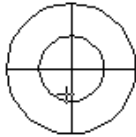

Figure 22-23: The pick point for Step 4
4. Type **vpoint** ↵. Press Enter again. Pick the point shown in Figure 22-23. Do a hide to see the results. This time you get an above-ground view from the front-left corner.